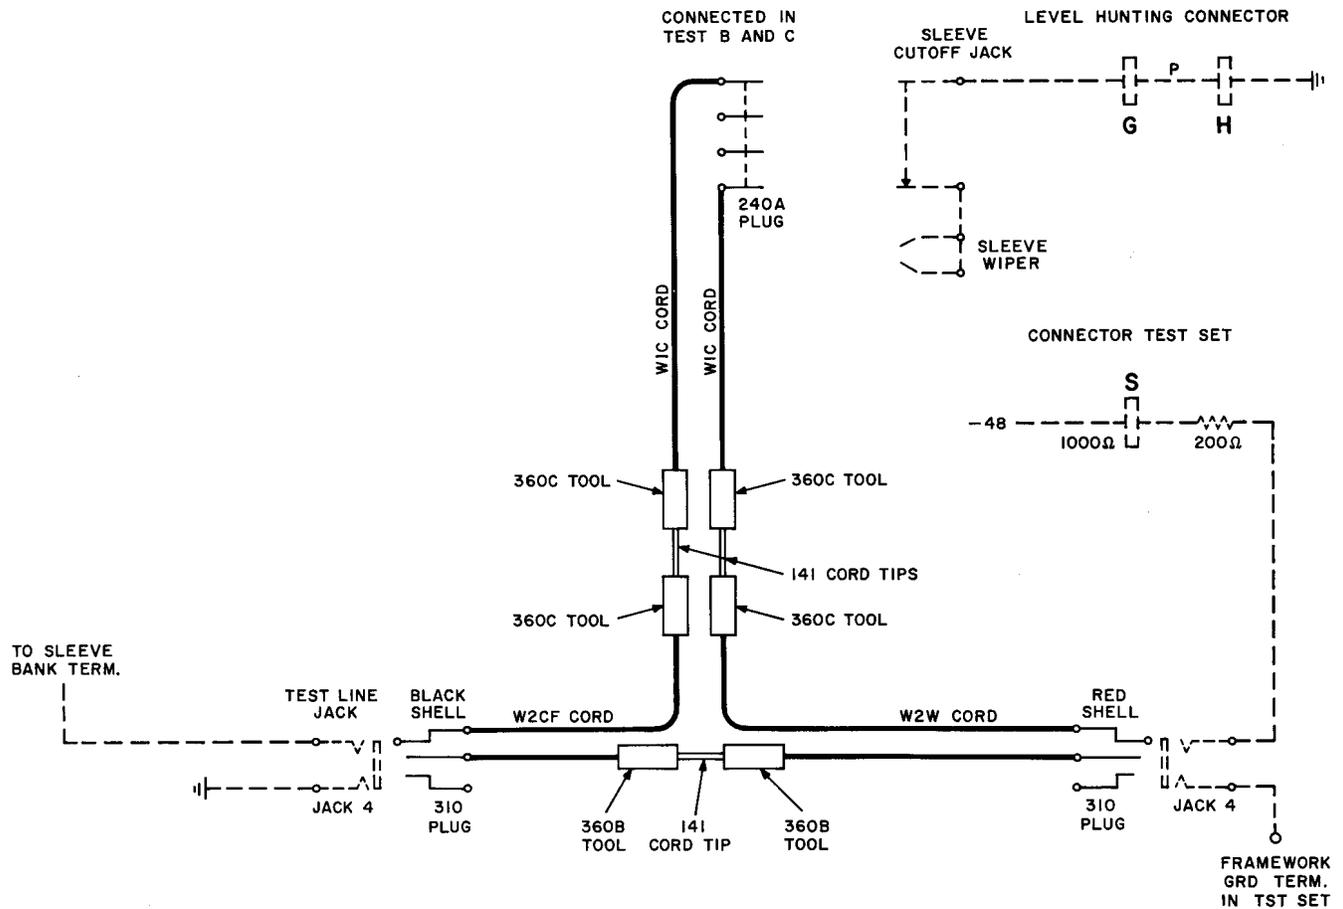

Fig. 1 — Testing Cord
2.06 Testing cord — W2W cord equipped with 310 plug, 360B tool, and 360C tool (2W17A cord); W2CF cord equipped with 310 plug (replace red shell with black shell), 360B tool, and 360C tool (2W17D cord), two W1C cords, each 12 feet long; two 360C tools; 240A plug; and three 141 cord tips. Connect to form special cord as shown in Fig. 1.
4	Connect test set jack 4 to test line jack 4 (level hunting) on connector frame, using special test cord, Fig. 1.
13	Insert 240A plug (stay cord to the right) of special test cord (Fig. 1) into sleeve cutoff jack of connector. Note: If sleeve cutoff jack wiring is reversed, reverse 240A plug.
12	Insert 240A plug (stay cord to the right) of special test cord (Fig. 1) into sleeve cut-off jack of connector. Note: If sleeve cutoff jack wiring is reversed, reverse 240A plug.